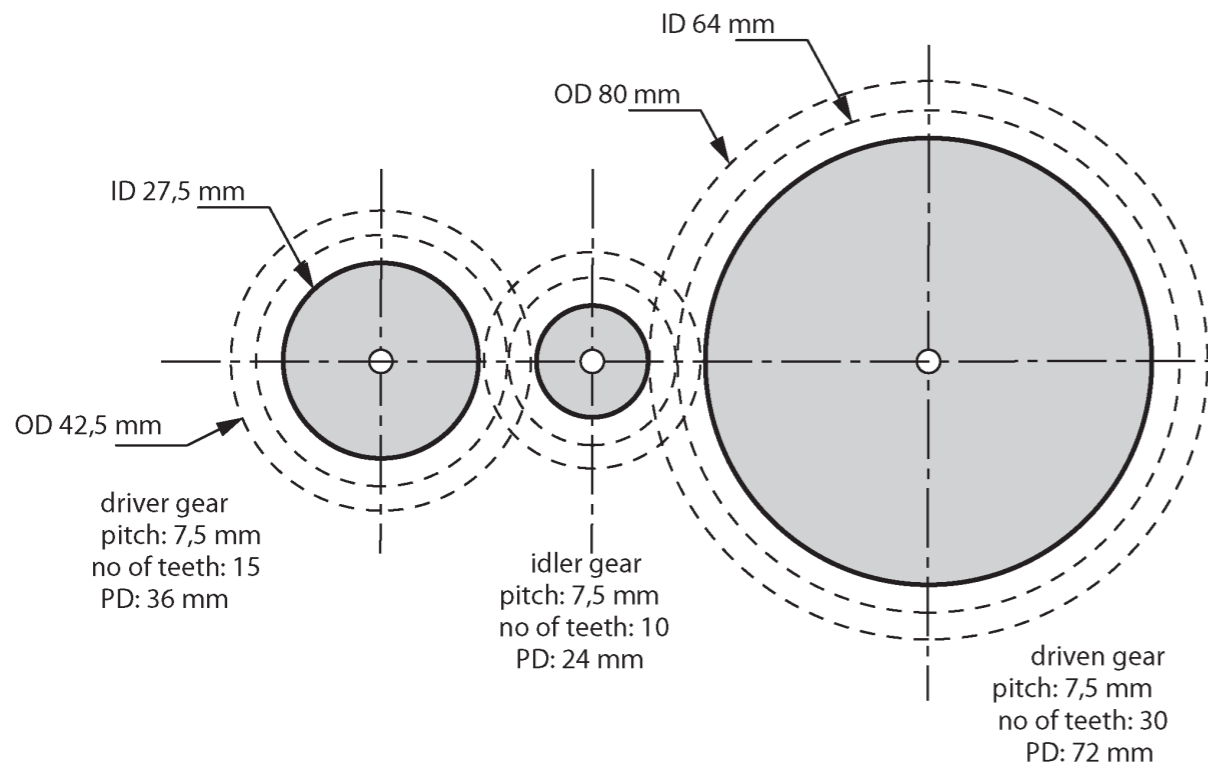

Figure 9
1. Draw the gear system in Figure 9 on grid paper.